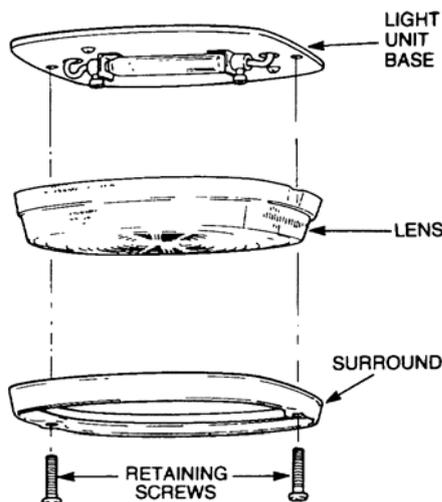

Figure 10 Loading Light Exploded View
- Remove the two screws securing the lens and chrome surround to the light unit base (refer Figure 10).
- b. Remove the two screws securing the lens and chrome surround from the light unit base (refer Figure 10).